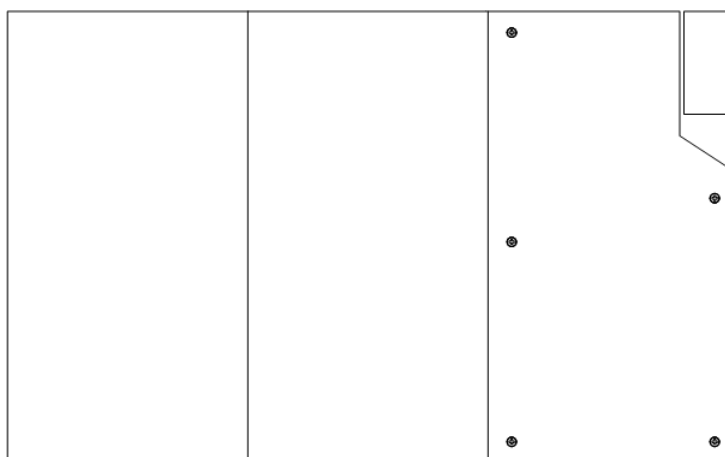

Figure 5.26 Mounting frame mounting screws
1. Loosen the mounting screws of the top cover of the mounting frame using a size 1 cross-head screwdriver, refer to Figure 5.26.
2. Tighten the mounting screws of the upper cover of the mounting frame. Use a size 1 cross-head screwdriver for this purpose, refer to Figure 5.26.